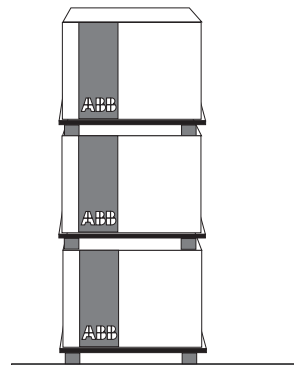

Fig. 6
- The maximum number of stackable circuit-breakers is indicated in figure 6,